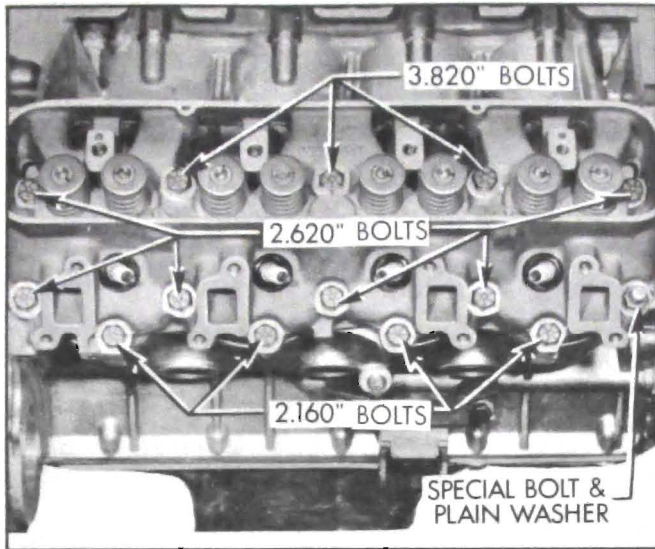

Figure 2-23—Cylinder Head Bolt Installation
4. Clean and lubricate the head bolts with "Perfect Seal" sealing compound. Install bolts as shown in Figure 2-23.
3. Rinse push rod seat and plunger retainer, place these parts in end of body and depress with handle of Remover J-5238 until retainer engages groove in body. See Figure 2-23, view B.